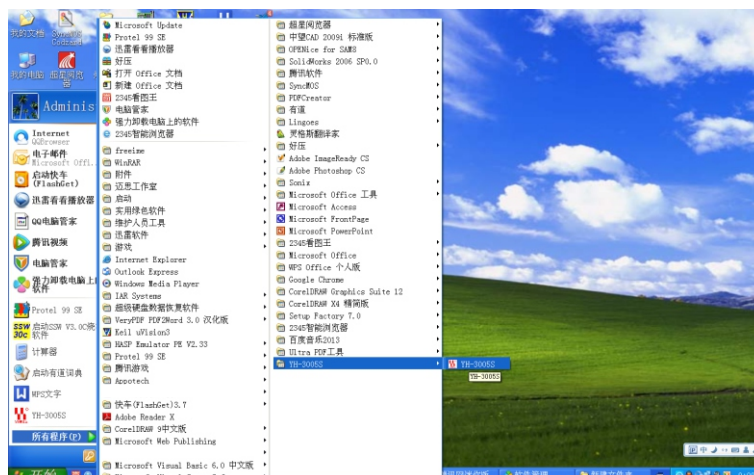

Figure 20
A. start ➡ all program ➡ YH-3005S group ➡  YH-3005S, as figure 20: